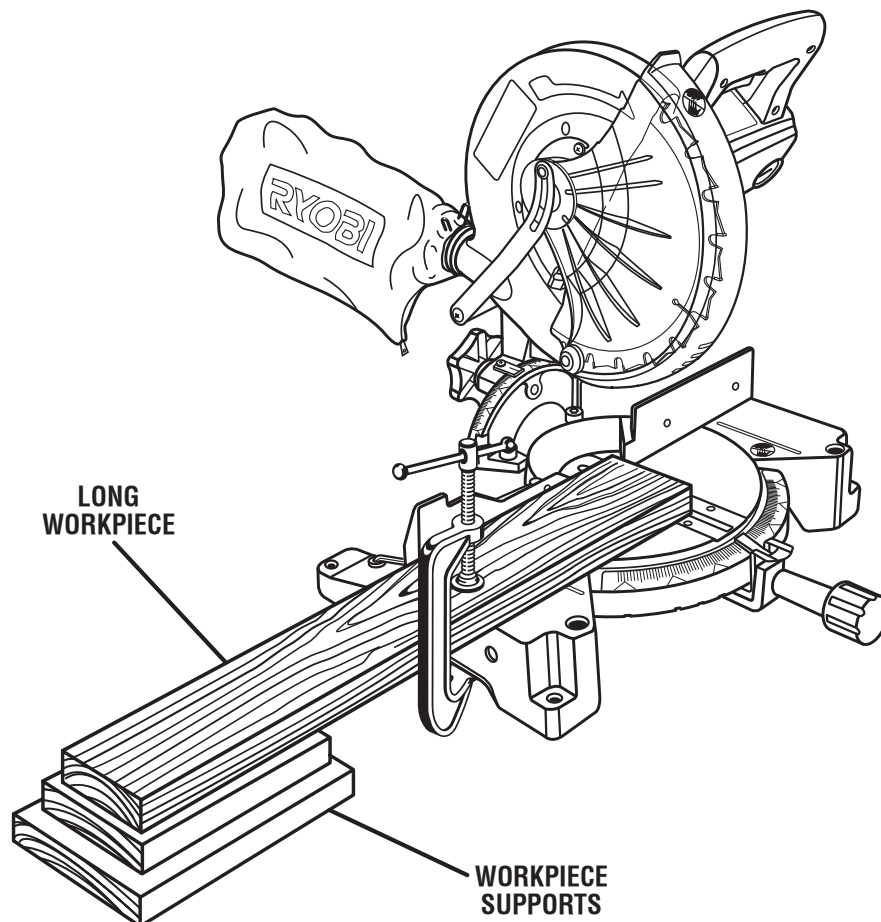

Fig. 30
- When cutting long pieces of lumber or molding, support the opposite end of the stock with a roller stand or with a work surface level with the saw table. *See Figure 30.*
See Figure 30.